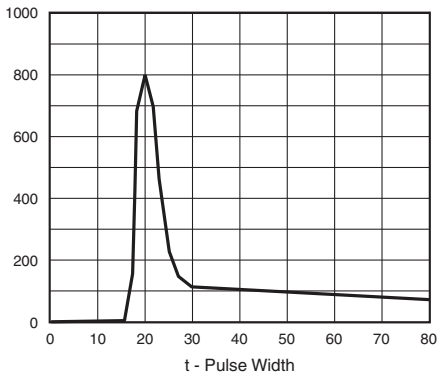

Figure 3. 7.5 cm Lead Wire
**A. EMP:** Voltage rise-times of EMP (Electromagnetic Pulse) transients, as generated by high altitude nuclear detonations, are 5 kV/ns. The presence of even a small amount of inductance in the protector circuit can have very profound results on the effectiveness of a protector device. This is illustrated with the oscillographs in Figure 3 and 4.
In Figure 3, a 30 V Transient Voltage Suppressor in the DO-13 package was pulsed with a 100 A 4 kV/ns rise-time transient. With 7.5 cm leads on each end, at which current was injected and voltage measured, the overshoot voltage is slightly greater than 800 V. The energy under this curve is calculated to be 70 mJ, sufficient energy to destroy most types of MOS and some TTL devices. By reducing the lead length to zero and repeating the pulsing, the overshoot voltage is reduced to about 200 V. The energy under this curve is less than 1 mJ, below the destruct threshold of MOS and TTL devices.